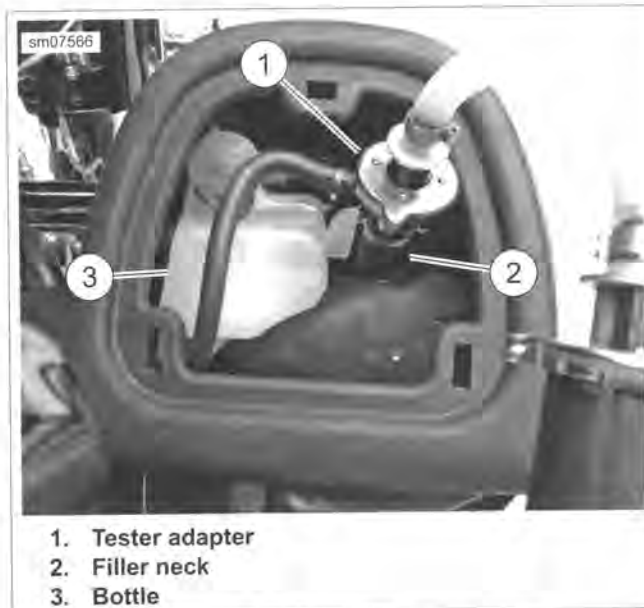

Figure C-3. System Pressure Test
1. See Figure C-3. Before troubleshooting cooling system, be sure that engine coolant level is at or slightly above COLD FULL mark on overflow bottle (3).